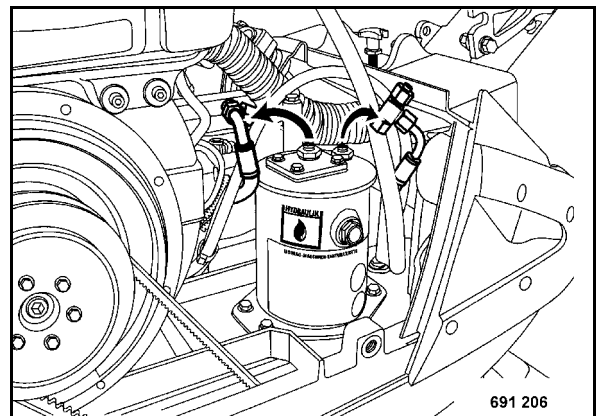

Fig. 74
- Disconnect the connecting hoses (Fig. 74).